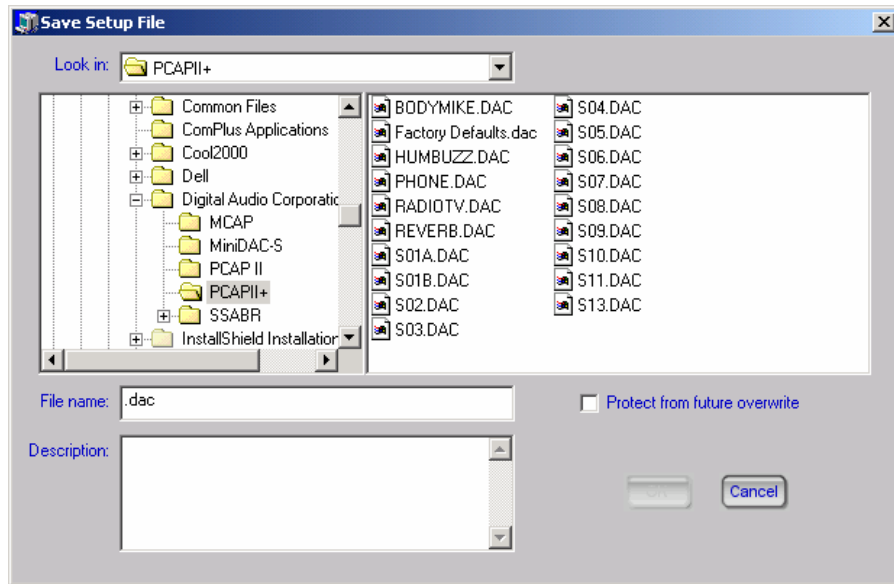

Figure 4-79 Save Setup File Window
1. Click on **File** on the Master Control menu bar. When the pulldown menu appears, click on **Save Setup File**. This will cause the window in Figure 4-79 to appear: